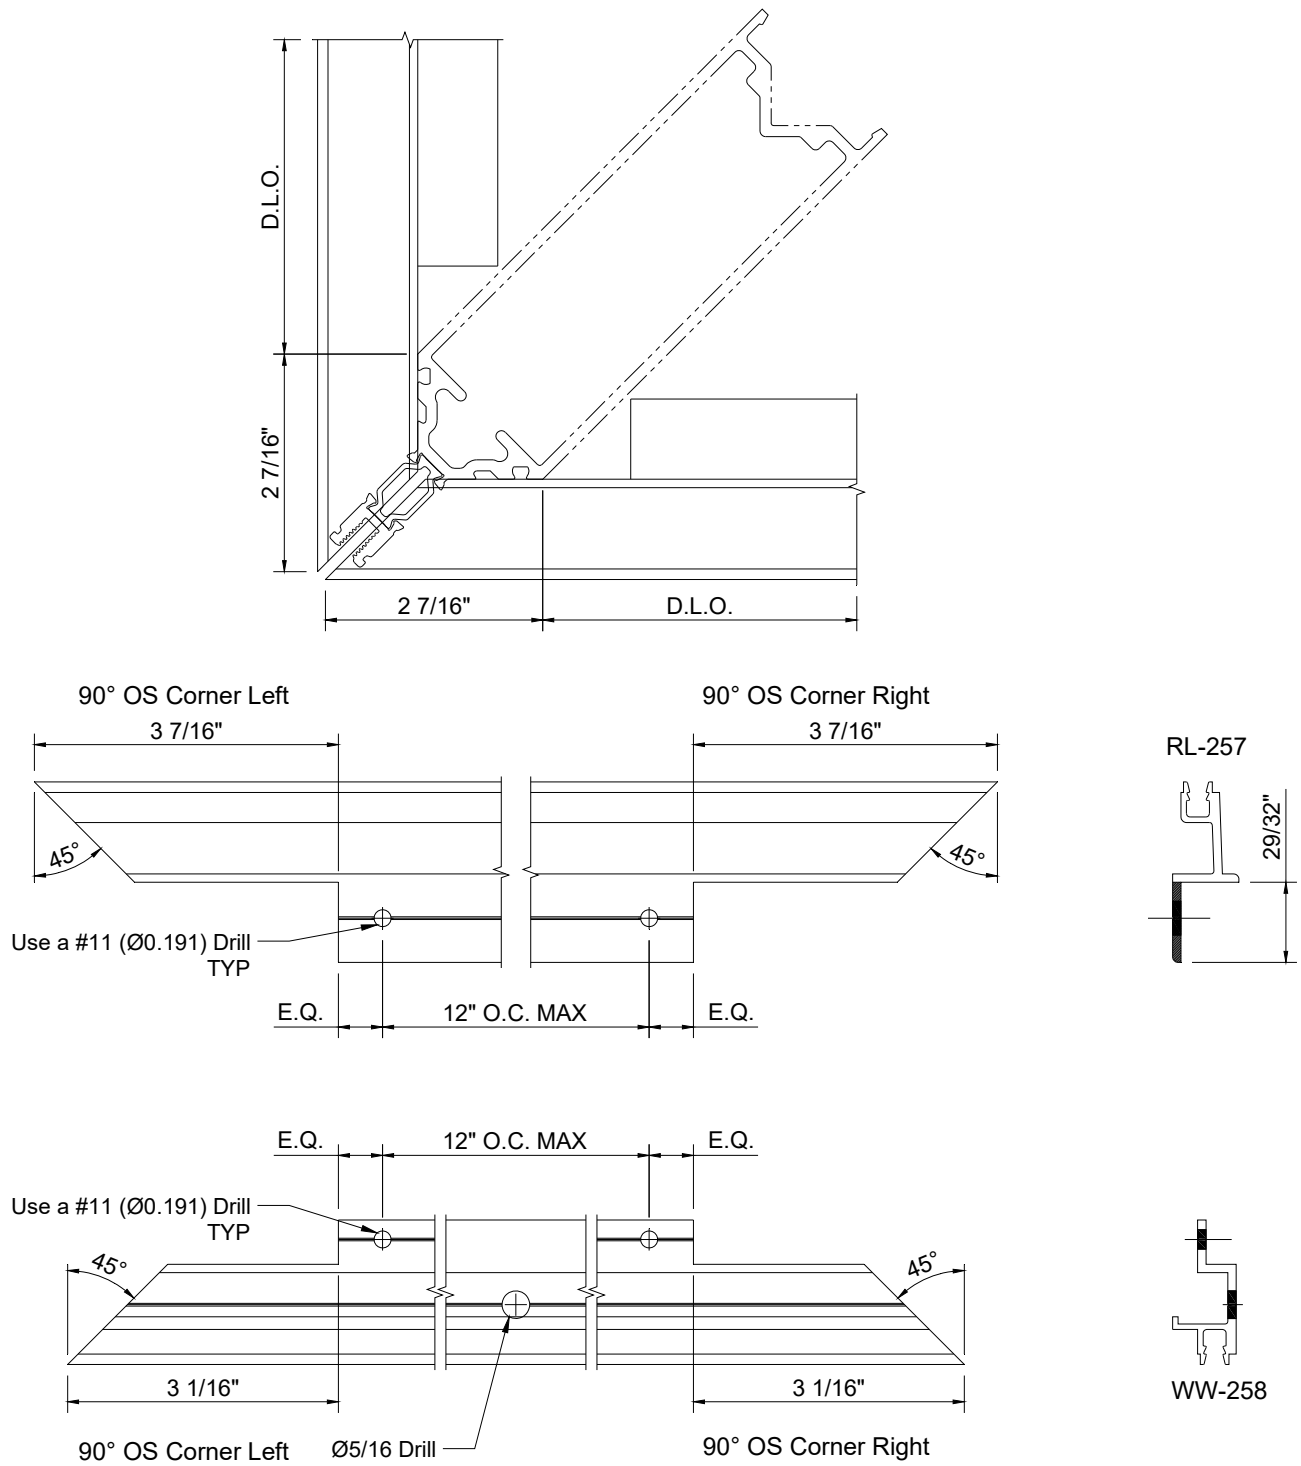

Figure 21: Horizontal Expansion Gasket Retainers at 90° Outside Corner
- 7.6 Fabricate **RL-257** and **WW-258** at 90° outside corner as required per, *Figure 21*.